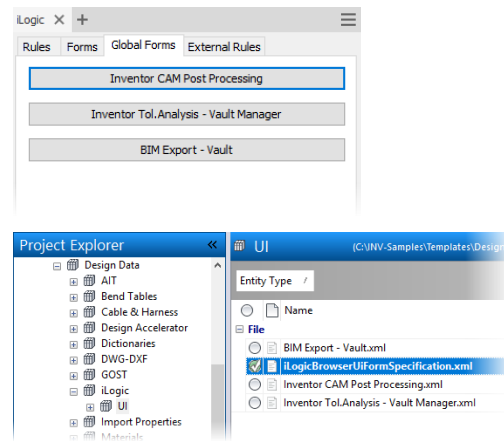

Figure 3
- Restrict to Edit or Add External Forms by managing the file iLogicBrowserUIFormSpecification.xml (Figure 3)